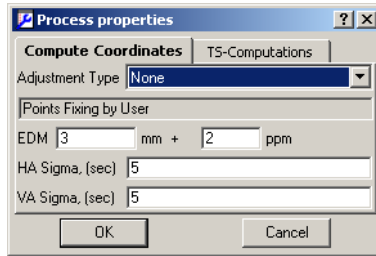

Figure E-18. Process Properties – Compute Coordinates Tab
2. Click the *Compute Coordinates* tab and select an adjustment type (Least Squares for this example of a network). Click **OK** (Figure E-18 on page E-13).